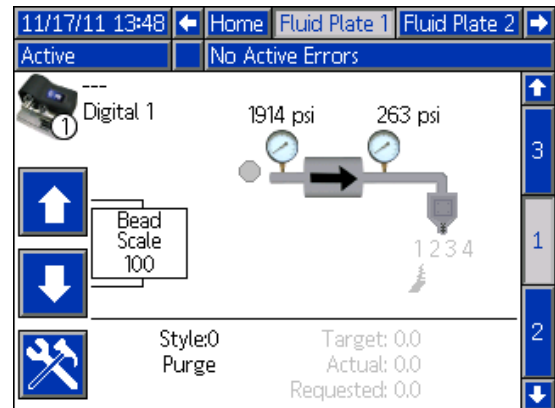

FIG. 33
4. Record the volume dispensed on Fluid Plate x, screen 1. See FIG. 33 on page 47.